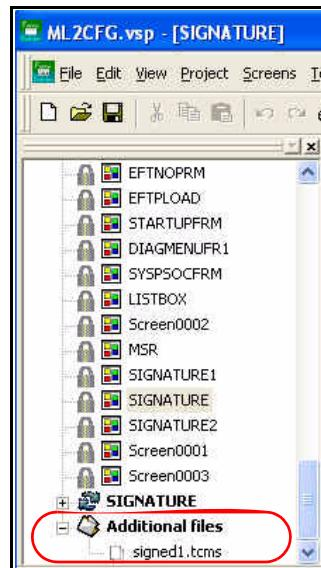

Figure 2-59 Imported File under Additional Files
3. Navigate to the file and click **Open**. The file is added to the bottom of the Project File Tree window under **Additional files**, as shown below in the Figure 2-59 example.